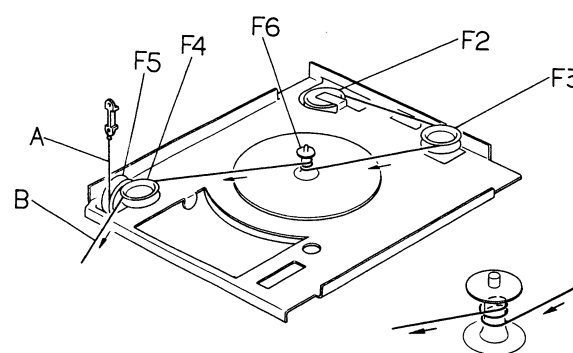

Fig. 5.5
- (6) Refer to Fig. 5.5. After sending along via F2 and F3, wind the thread B around F6 (center shaft) 2 times upwardly, then pass B along via F4.